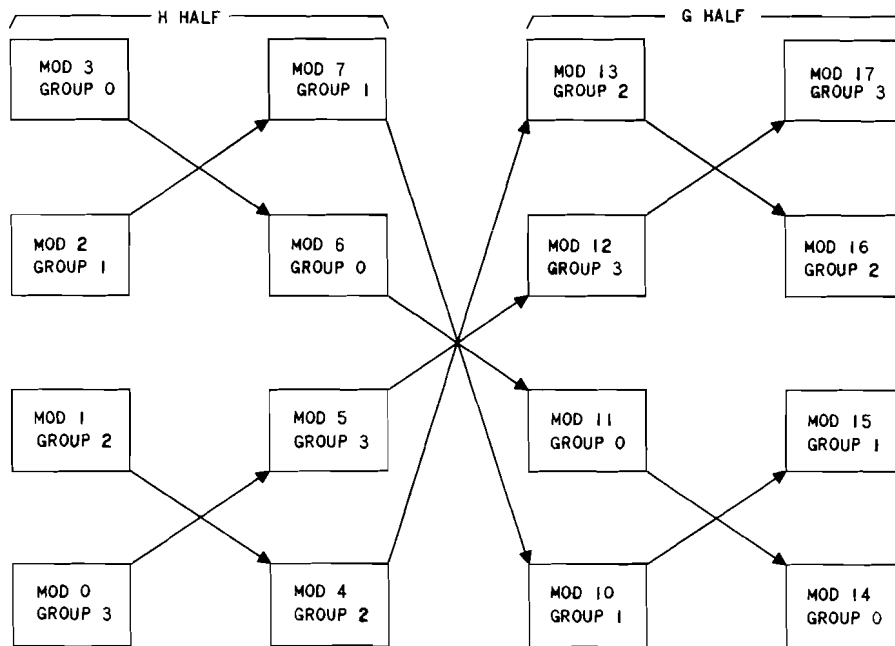

Fig. 3—PS Module Array
(2) Depress FRAME CONTROL—REQ INH pushbutton on the PS control panel. If a favorable MA07 output message is obtained, proceed to (3); if an output message is not obtained, repeat (1) and (2). If output message still fails, scan point or pushbutton may be fault.
(3) Depress FRAME CONTROL—VER pushbutton on the PS control panel. CW04 and CW13 messages report the results.
8.21 Results obtained from verifying modules of the same MOD group and modules of other MOD groups (Fig. 3) should indicate a faulty store, module, twistor tape, twistor card, word, or a single bit.